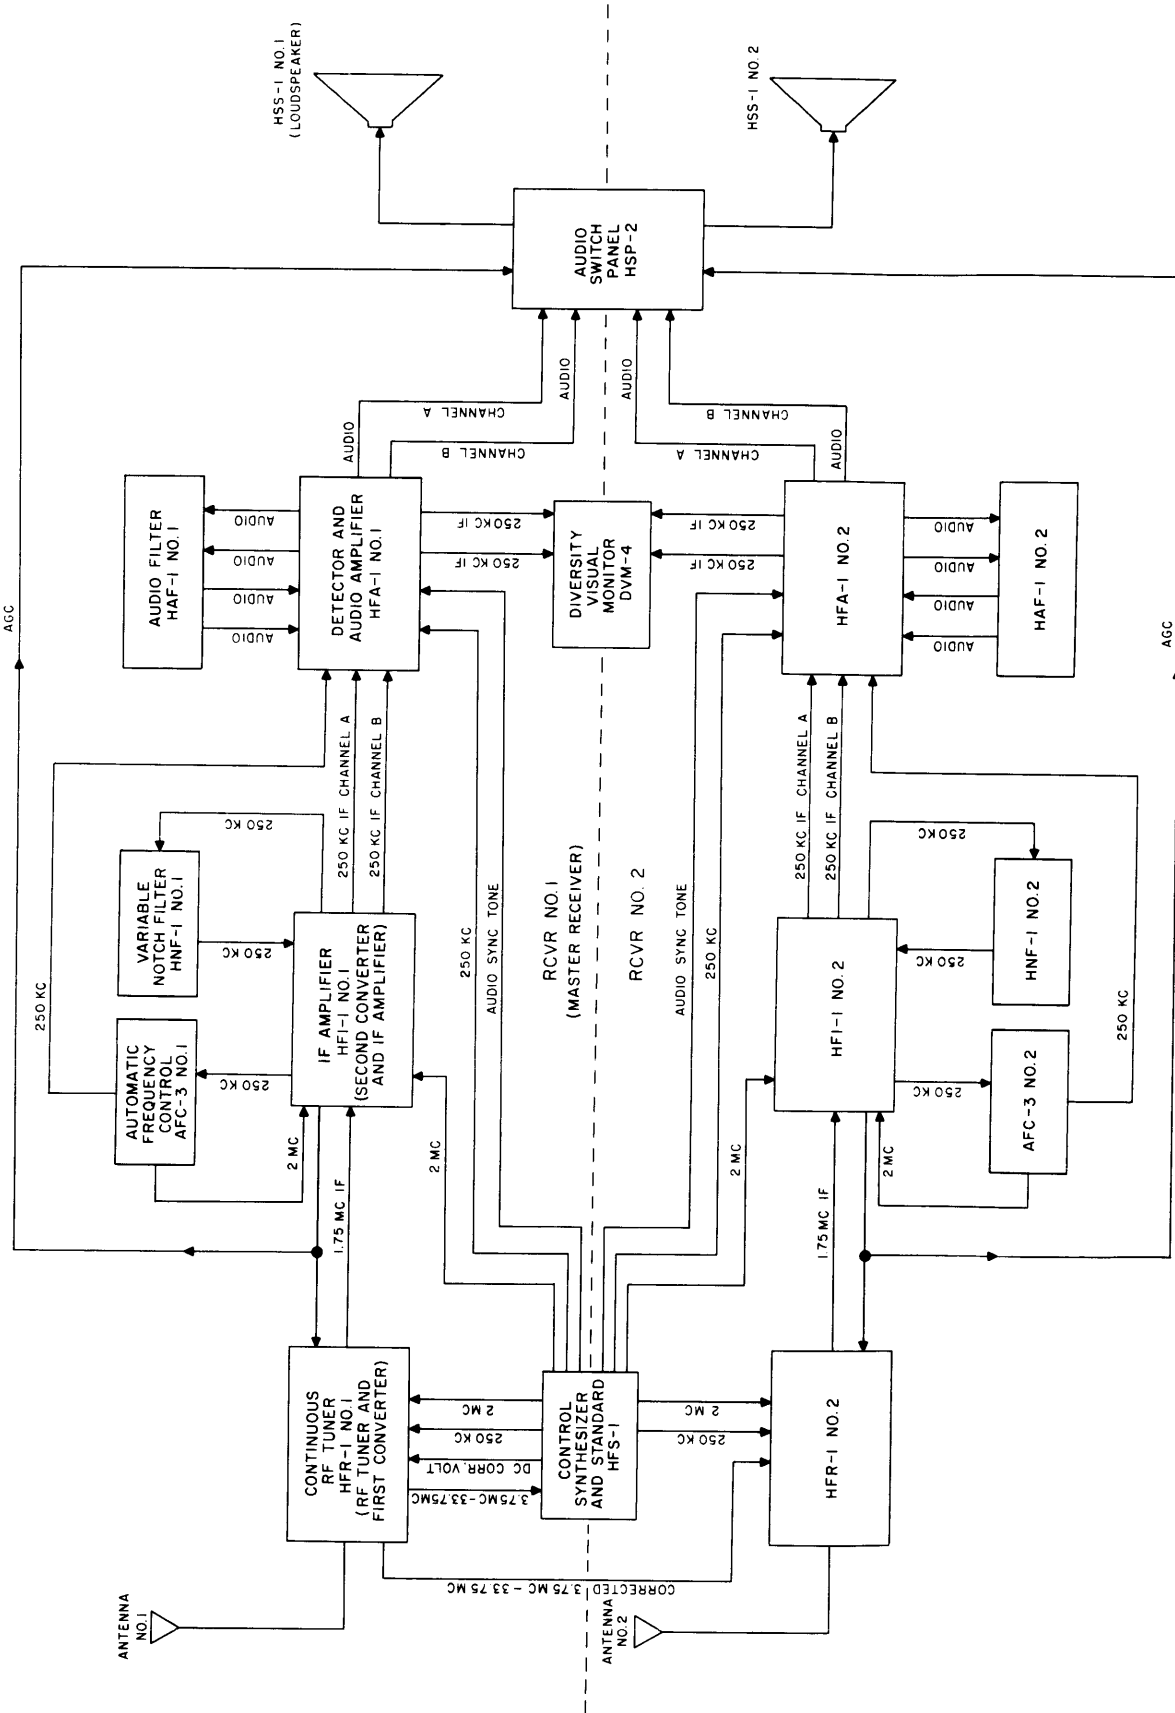

Figure 4-1. Simplified Block Diagram, DDR-5A
(3) The AFC switch (42 and 89) of IF Amplifiers HFI-1 No. 1 and HFI-1 No. 2 must be set at ON at all times in order to provide a 2 mc injection frequency for the second converter stage of HFI-1 No. 1 and HFI-1 No. 2 (see figure 4-1).
(4) All references to controls and indicators on modular units except Audio Switch Panel HSP-2 and Diversity Visual Monitor DVM-4 must be confined to the receiver being operated.
b. FUNCTIONAL ANALYSIS, SYNTHESIZED DIVERSITY OPERATION. - Refer to figure 4-1.